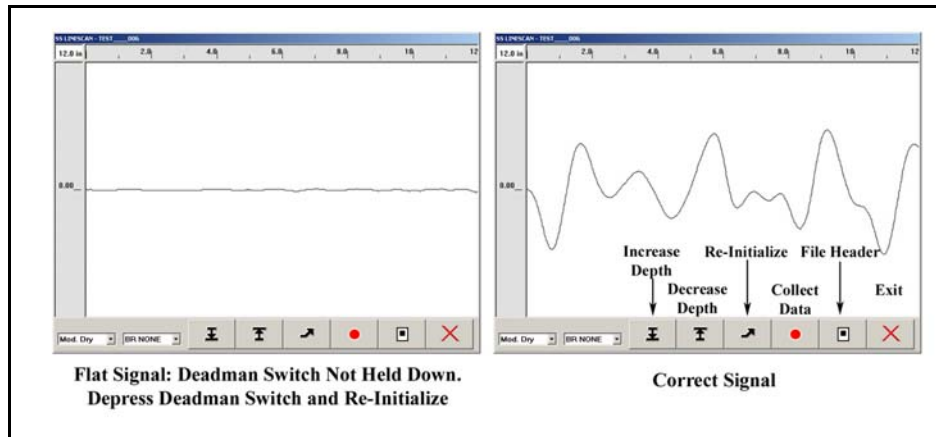

Figure 54: Incorrect and Correct Signal.
- 3 If your scan/trace looks like the image at the left of Figure 54, you will need to reinitialize. Hold down the red deadman switch on the minicart’s handle and click the re-initialize button once. After a few seconds you will see the scan line change to the image on the right. Click the Collect Data button  (F8) to begin data collection.